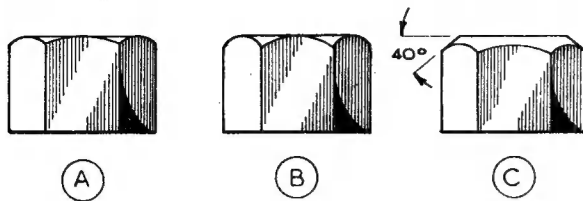
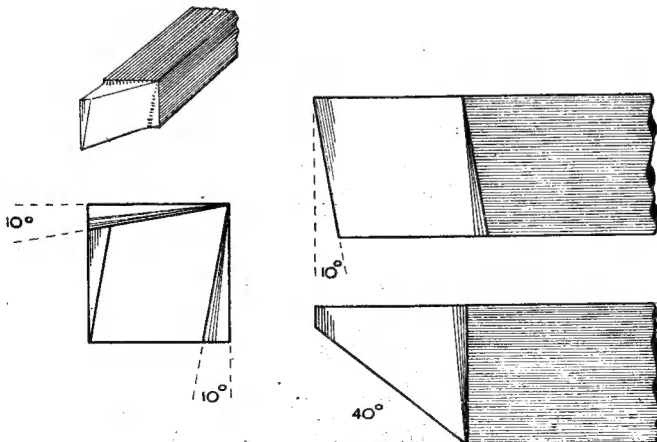

Fig. 3. Nuts with various widths of chamfer
Fig. 4. A standard chamfering tool
The depth and angle of the chamfer goes a long way in giving a nut a well-finished appearance. Fig. 3 (A) shows a nut made rather unsightly by having too narrow a chamfer; nut (B) has the standard depth of chamfer found in an ordinary commercial nut; but nut (C) has the deep chamfer, used in some classes of work, which gives it a lighter appearance and possibly suggests that it has been specially made for the job. The chamfer is usually formed at an angle of 40 deg., but an angle of 30 deg. is sometimes used. The tool illustrated in Fig. 4 will serve well for cutting in the upside-down position in the back toolpost; this will enable broad chamfers to be machined without chatter.